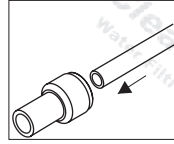

Fig. 4
- 1) Push the flexible tubing 1.5 cm (0.6 in) deep into the quick connector (Fig. 4)